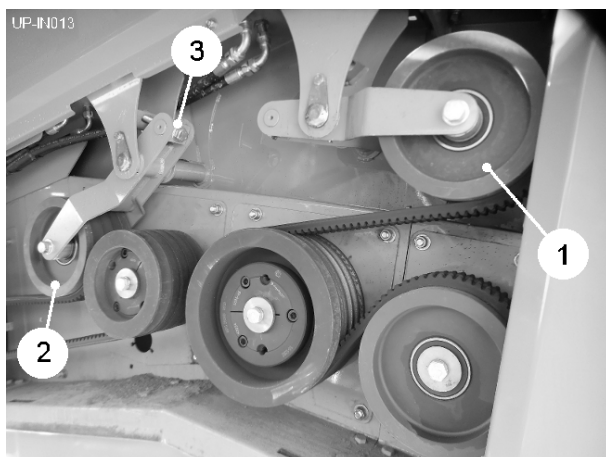

Fig 21
The rear 'V' belt drives are tensioned by the roller units (item 1 & 2, fig 21). To adjust, turn the setscrew (item 3, fig 21). The 'V' belts should be tensioned just enough to give a positive drive without slipping.